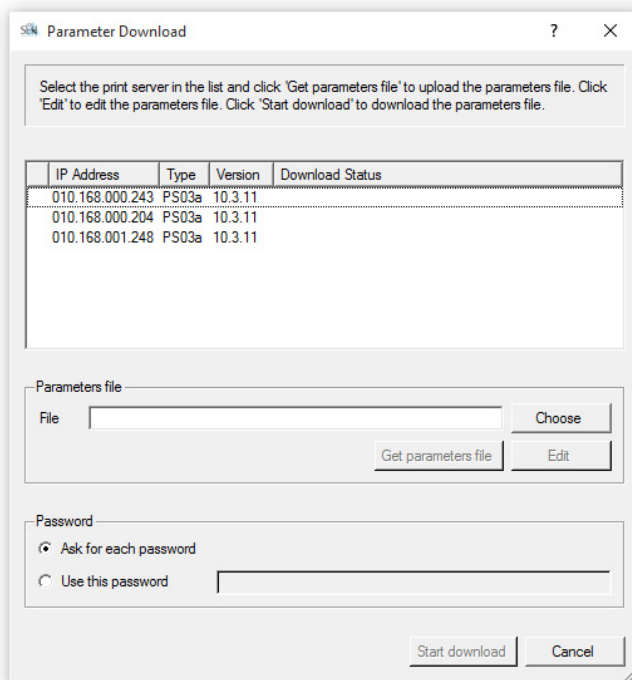

Fig. 7: InterCon-NetTool - Parameter download
3. *Select Actions – Download parameters file an. The Parameter Download dialog appears; see Fig. 7 ⇨ 120.*
The Parameter Download dialog appears; see Fig. 7 ⇒ 120.